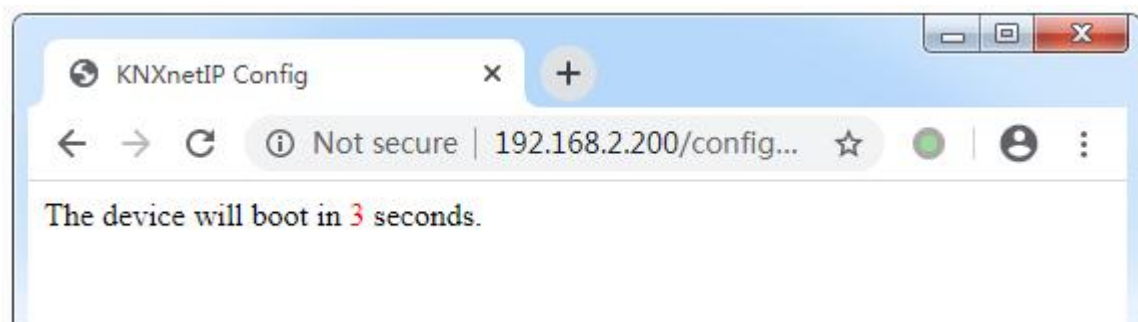

Fig. 6.2
⑨ **[Save And Reset]** : Click this button to save and reset after setting changes are completed. At this time, the page will jump to the window as shown in Fig.6.2, indicating that the device is restarting. After restarting, the page will automatically return to the configuration window.